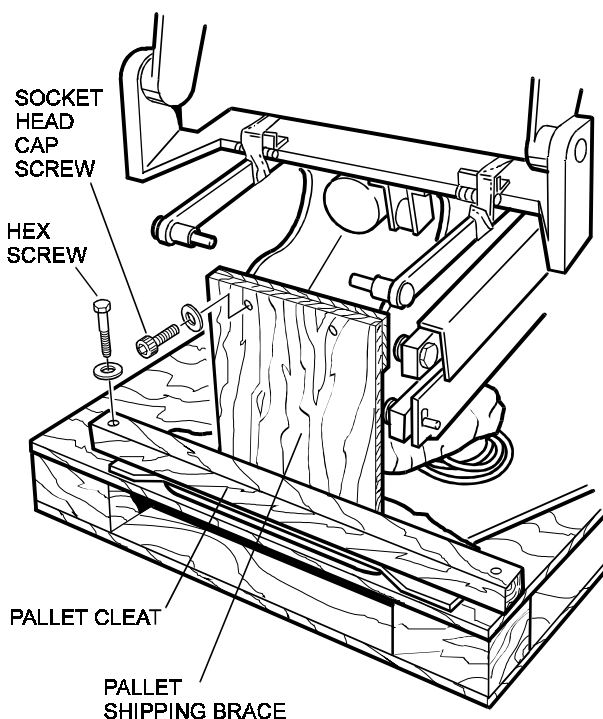

**Figure 2**
2. Locate the two socket head cap screws and washers that secure the back of the chair to the pallet brace (see Figure 2). Using a 5/16-inch allen wrench, remove the two screws and washers.
3. Locate the two hex screws and two washers that secure the pallet cleat to the pallet, as shown in Figure 2. Using an adjustable wrench, remove the two screws and washers. Remove and discard pallet brace and cleat.